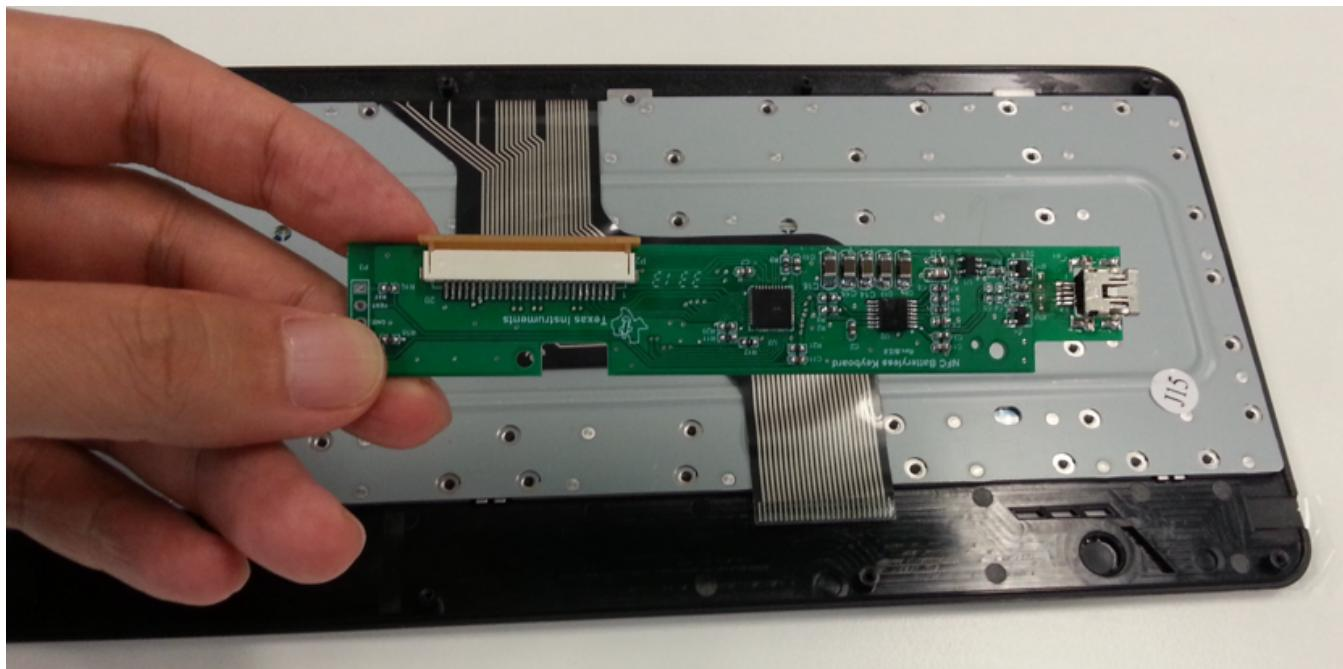

Figure 10. Attach New NFC Keyboard PCBA
9. Attach the new NFC keyboard PCBA without the battery (see Figure 10).